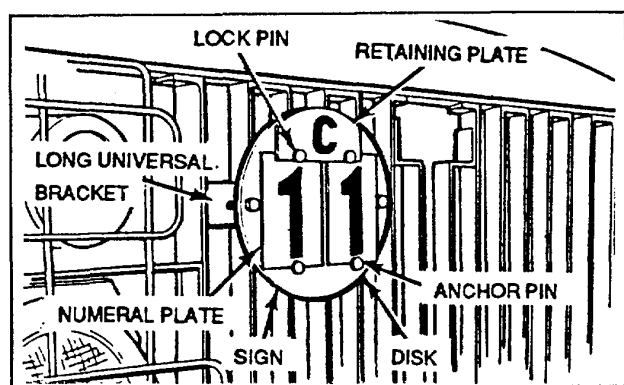

Figure 22. Vehicle weight classification sign installed.
e. In usages where the classification number may change, a sign kit will be utilized which consists of a 9-inch metal disk, a retaining plate, and two sets of five different numeral plates. By installing the retaining plate, the numeral plates will be locked in place. The sign has black numerals on a green background and a black C on the top of the retaining plate, Figure 22.
3. With the bracket in a vertical position, insert it between two bars of the brush guard at the desired location. With one hand, reach behind the brush guard and adjust the bracket to a horizontal position. With the other hand, install another bolt (1-3/4 inches long), washer, and nut. Tighten both bolts, but apply only enough torque to secure the sign to brush guard. Excessive torque will cause the sign disk to bend. Figure 22 shows the sign installed on brush guard.